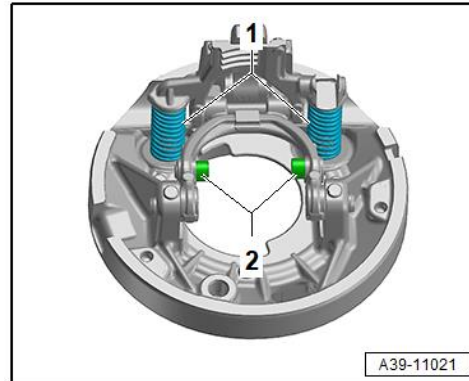

Figure 19. Bushing and spring installation.
13. Apply a small amount of assembly grease to the pins for the bushing and install the new bushings from the repair kit (Figure 19, position 2).
Install the new springs provided in the repair kit (Figure 19, position 1).